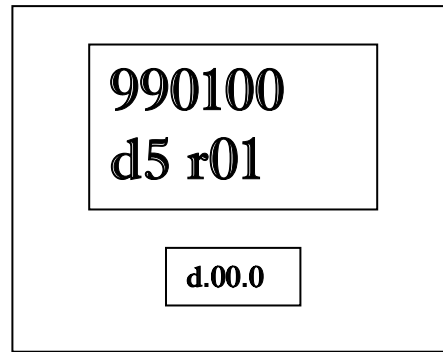

Figure 37
d.00.0 Software I.D. Number. The display shown in Figure 37 appears. The PPV display shows the dispenser is in Diagnostics Level 0.0.